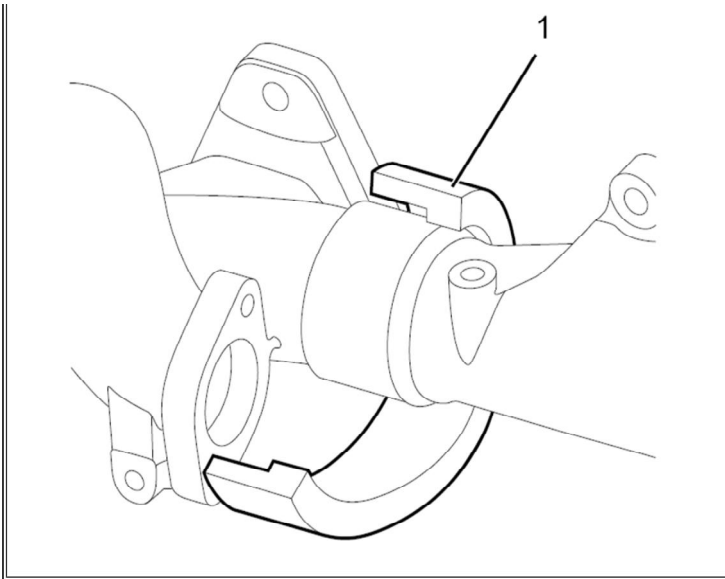

Figure 27: Front Exhaust Manifold Ring Seal Ceramic Mat Wrap
29. Wrap manifolds and seal packing with ceramic mat wrap (Figure 27, Item 1) covering seal packing with thick end of ceramic mat wrap.